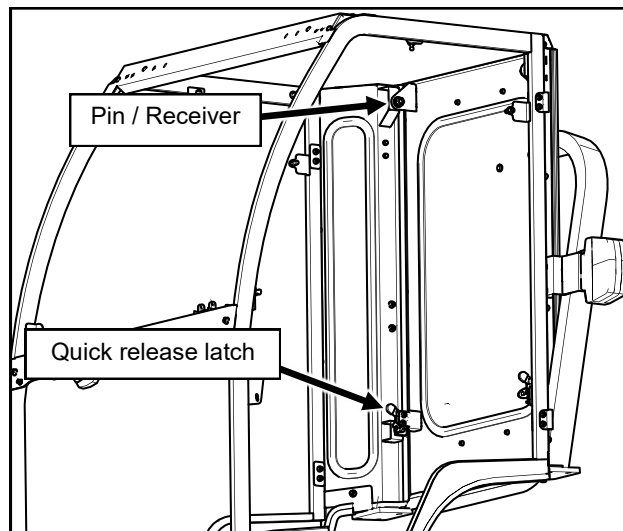

Fig. 10.2 (Rear Leg / Rear Panel Engagement)
- 10.2 Lift rear panel and slide the upper pins into the receivers on the rear legs. Engage the lower quick release latches at this time. See Fig. 10.2.
*Note: The quick release latches require (2) clicks to be fully locked. Press the rear panel in from the outside in these locations to double click the latches.*